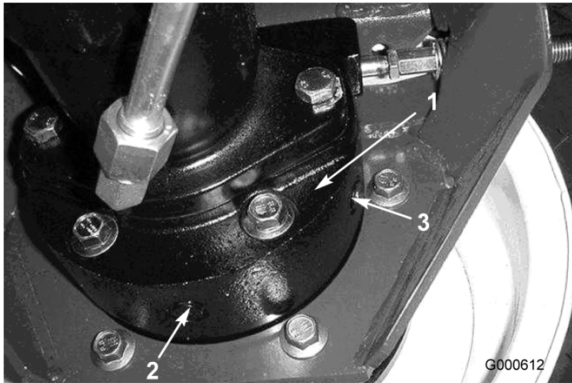

Figure 43
- Place another drain pan under the brake housing on the other side of the wheel (Figure 43).